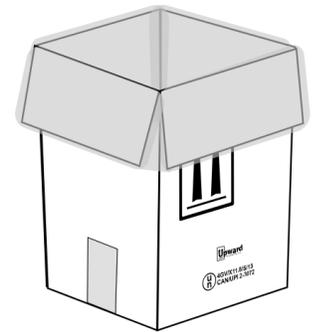

Figure 3
3. Line carton with included anti-static liner bag. (See Figure 3)